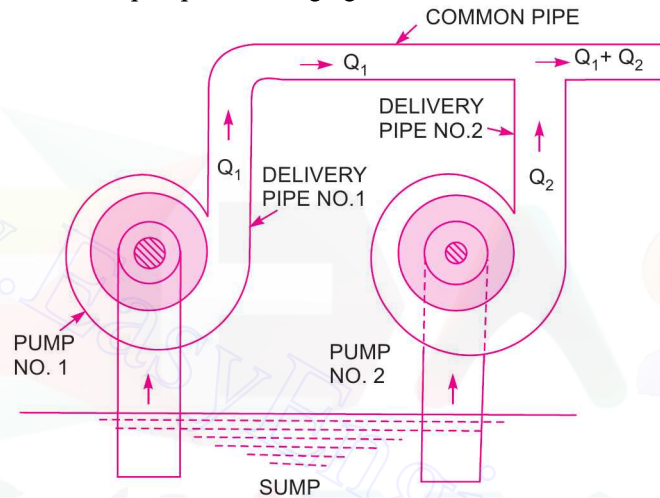

Fig. 19.13 Pumps in parallel.
**19.6.2 Multistage Centrifugal Pumps for High Discharge.** For obtaining high discharge, the pumps should be connected in parallel as shown in Fig. 19.13. Each of the pumps lifts the water from a common pump and discharges water to a common pipe to which the delivery pipes of each pump is connected. Each of the pump is working against the same head.